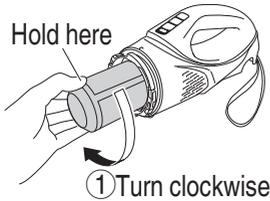

Fig. 6
- (2) Remove the pre filter. (Fig. 6)